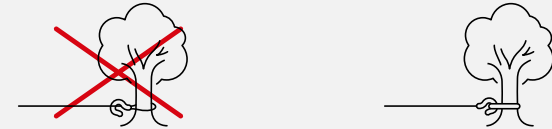

Fig. 2
**! WARNING** do not use the winch at an acute angle, as this stacks the rope on one side of the drum, which could damage the rope and winch. This is shown in **figure 2**.